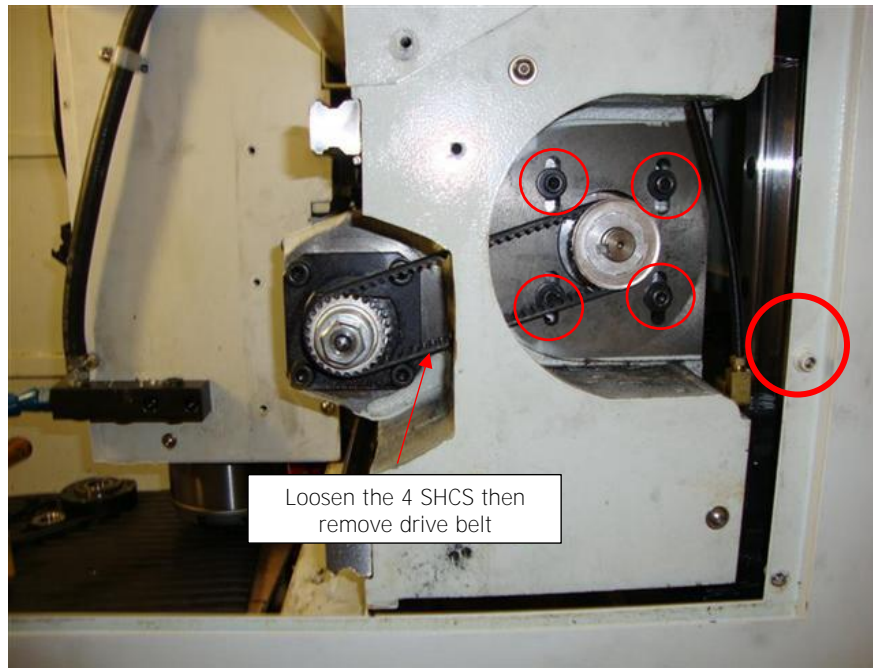

Figure 6.1.1c
10. **Loosen the four ¼" -20 SHCS** that secure the X-axis servo motor to the X-axis bridge. See figure 6.1.1c.
12. Remove the drive belt. See figure 6.1.1c.